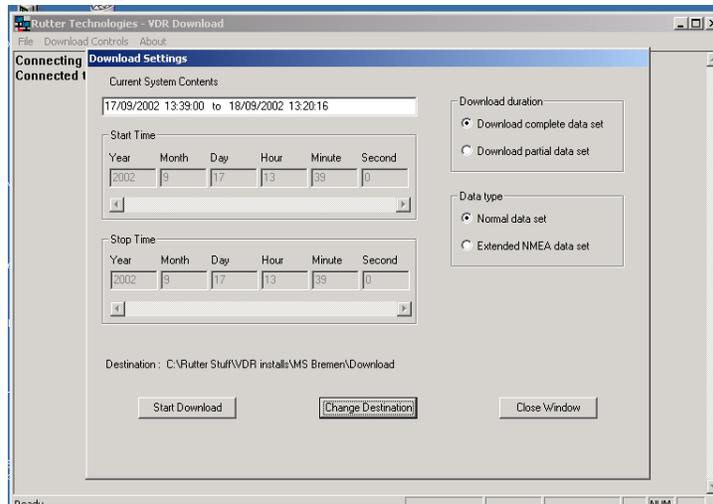

Figure 16-4 - Download Settings Window
8. Once prompted with the 'Download Settings' window (see *Figure 16-4 - Download Settings Window*), choose from the following available settings:
The Extended NMEA data set is a VDR-100G2 option, which supports the recording of up to 185 days of NMEA data to the DMM. When an extended NMEA download occurs, no video or audio data is included in the download. To select the extended NMEA download, check the 'Extended NMEA Download' located in the 'Download Settings' window (see *Figure 16-4 - Download Settings Window*).
A 'complete' download is the process of downloading a full 24-hour data set from the DMM. As a user may want only a 'partial' download, a 'Download partial data set' option is available. Select either 'Download complete data set' or 'Download partial data set' in the 'Download Settings' window (see *Figure 16-4 - Download Settings Window*) to download the desired data set.